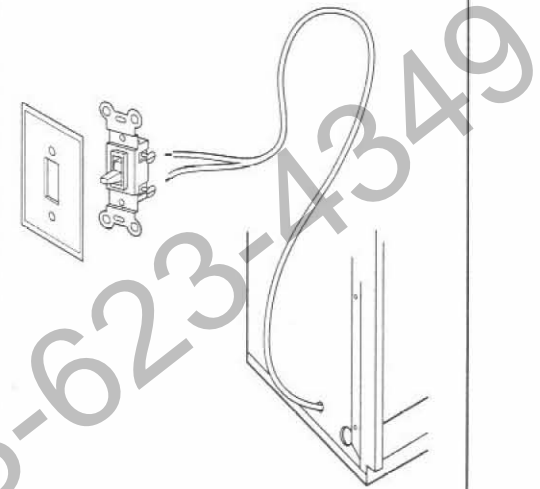

Figure 14
Step 4. Install Remote Wall Switch – The appliance is shipped with all the internal wiring completed at the factory. Select a convenient location for the remote wall switch and connect the wiring found at the appliance (Figure 14).